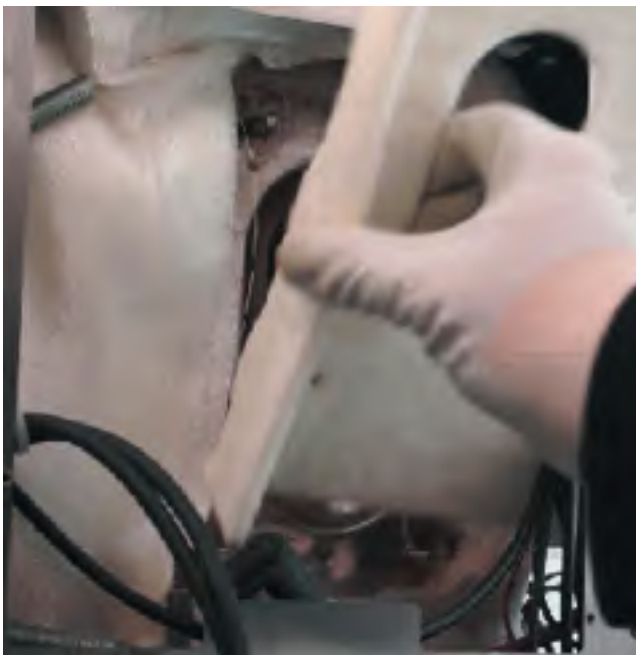

Figure 11
- h) Install the new sealing/isolation part that is called KGN1569A as shown on **Figure 11**.